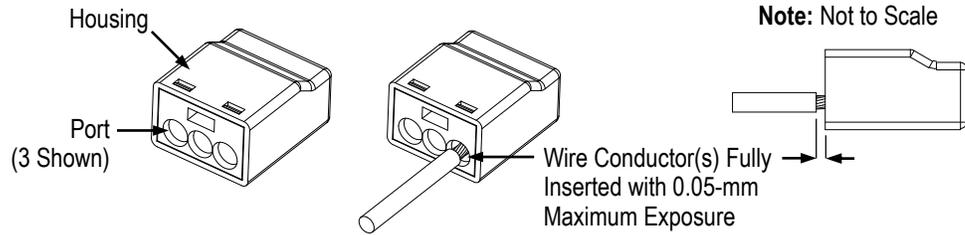

Figure 1
- Align the conductor end(s) with a port of the housing, then insert the conductor(s) into the port until resistance to further insertion is felt. Apply force to further insert the conductor(s) into the housing and engage the spring contacts until abrupt resistance is felt. The abrupt resistance indicates that the conductor(s) are fully inserted. The conductor(s) cannot be exposed more than the dimension given in Figure 1.